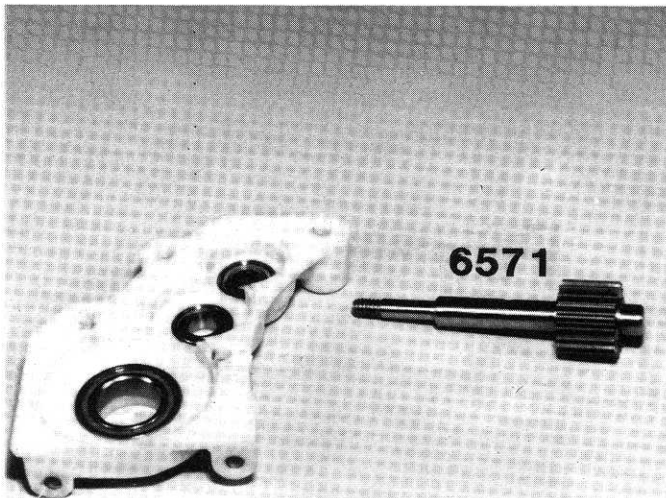

Fig. 49
□ **Figs. 49 & 50** Open Bag D and remove the #6571 drive gear assembly and slide it into the upper bearing in the right hand gear case.